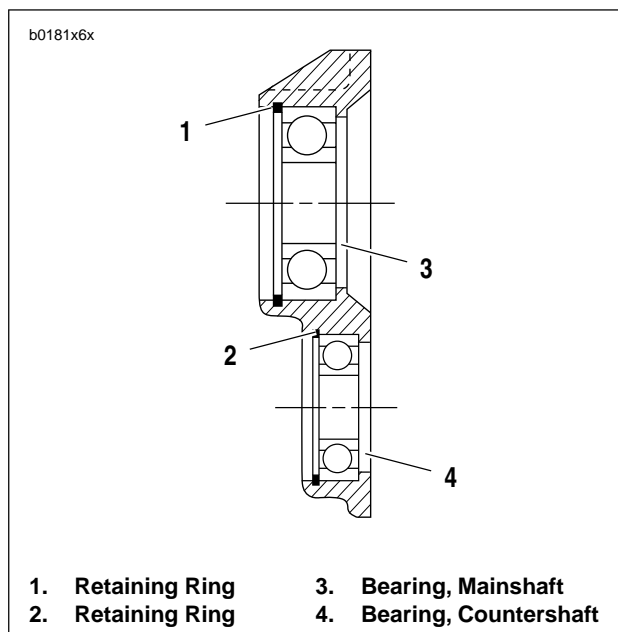

Figure 6-54. Ball Bearing Assembly
5. See Figure 6-54. If bearing replacement is required, remove retaining rings (1, 2). Press out bearings (3, 4) from the inside of the door.